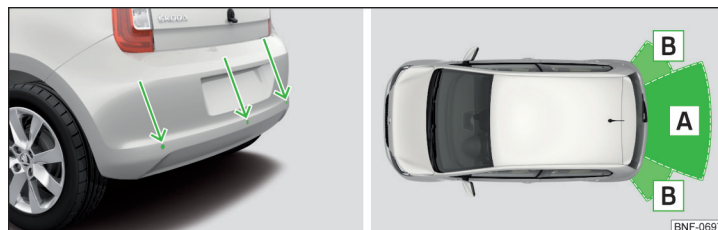

Fig. 95 Fitting the sensors / Range of the sensors
- Keep the system sensors » Fig. 95 on page 79 clean and free from snow and ice, and do not cover them with any objects of any kind, otherwise the functioning of the system may be restricted.
The system uses ultrasound waves to calculate the distance between the bumper and an obstacle. The ultrasonic sensors are integrated in the rear bumper » Fig. 95.
Sensor range » Fig. 95